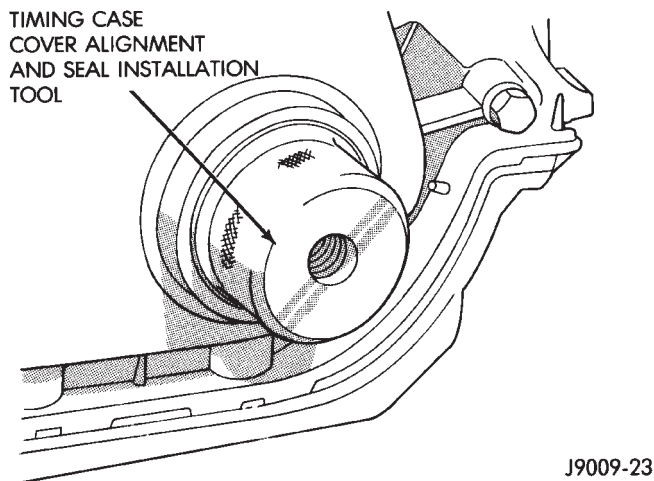

Fig. 3 Timing Case Cover Alignment and Seal Installation Tool 6139
- (1) Install a new crankshaft oil seal in the timing case cover. The open end of the seal should be toward the inside of the cover. Support the cover at the seal area while installing the seal. Force it into position with Seal Installation Tool 6139.
- (2) Position the gasket on the cylinder block.
- (3) Position the timing case cover on the oil pan gasket and the cylinder block. Make sure the tension spring and thrust pin are in place in the camshaft preload bolt.
- (4) Insert Timing Case Cover Alignment and Seal Installation Tool 6139 in the crankshaft opening in the cover (Fig. 3).
- (5) Install the timing case cover-to-cylinder block and the oil pan-to-timing case cover bolts.
- (6) Tighten the 1/4 inch cover-to-block bolts to 7 N·m (60 in. lbs.) torque. Tighten the 5/16 inch front cover-to-block bolts to 22 N·m (192 in. lbs.) torque. Tighten the oil pan-to-cover 1/4 inch bolts to 14 N·m (120 in. lbs.) torque. Tighten the oil pan-to-cover 5/16 inch bolts to 18 N·m (156 in. lbs.) torque.
- (7) Remove the cover alignment tool.
- (8) Apply a light film of engine oil on the vibration damper hub contact surface of the seal.
- (9) Apply Mopar Silicone Rubber Adhesive Sealant to the keyway in the crankshaft and insert the key. With the key inserted in the keyway in the crankshaft, install the vibration damper, washer and bolt. Lubricate and tighten the bolt to 108 N·m (80 ft. lbs.) torque.